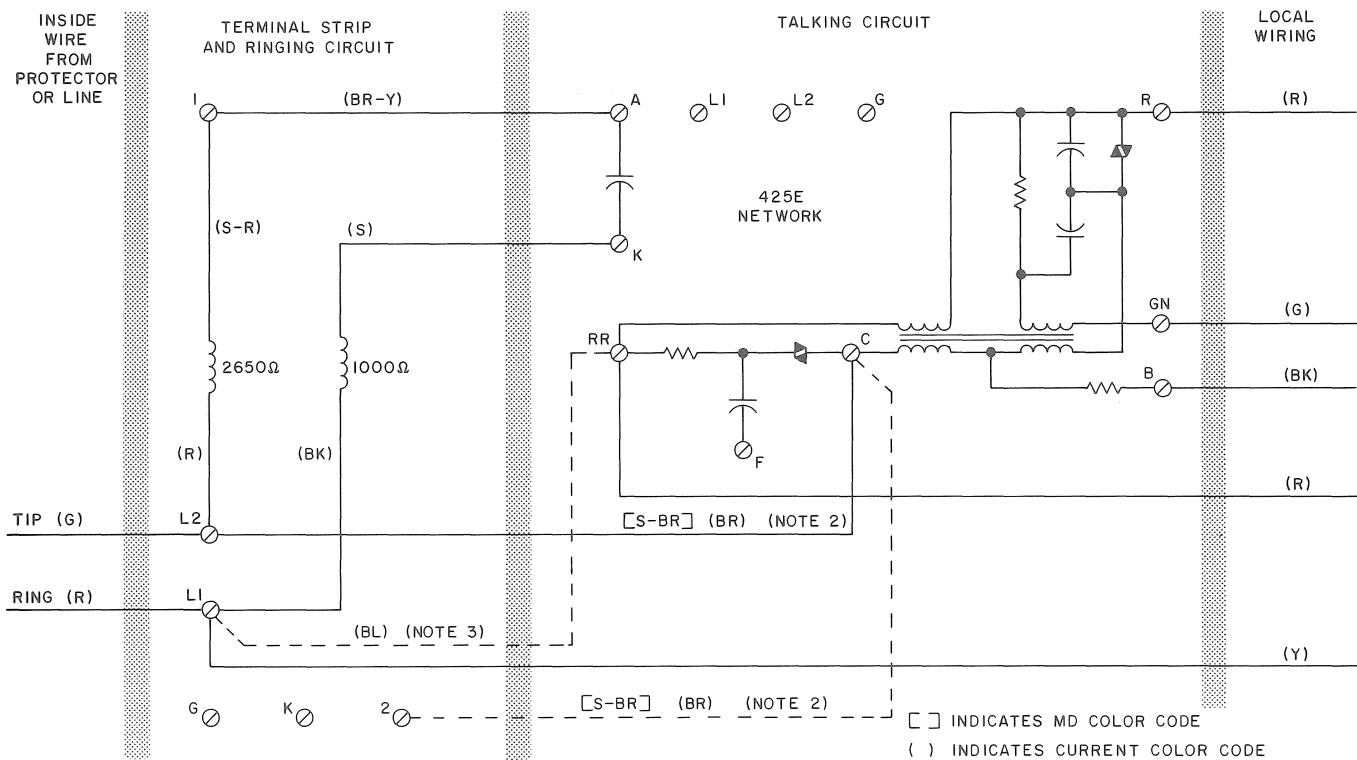

Fig. 3 — Circuit Diagram for Connections with Postpay Manual and
2.03 See Fig. 3 and Table C for circuit diagram and connections for postpay manual and rotary-dial coin collectors.